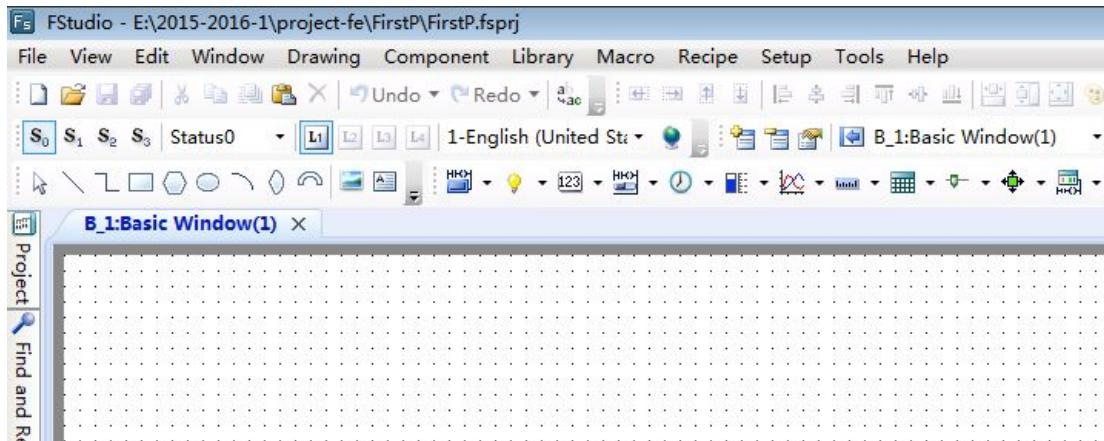

Fig. 13
(5) After the project is initialized, click the button “Confirm” and the project is created, as shown in Fig. 13.